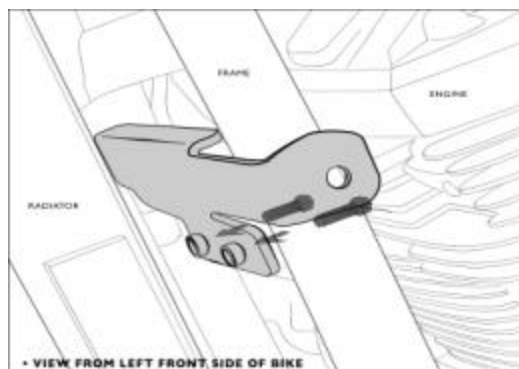

Figure 1
1. Remove the (3) 6mm radiator bolts (1 upper and 2 lower) and set aside. (Do not remove radiator hose).
3. Install the 5/16 x 5/8 Flanged bolts provided through the backside of the frame cross member into the threaded inserts of the mounting bracket (See figure 1). **Do not tighten bolts at this time.**
8. Rotate freeway bar into place with bar mounting tabs outside the upper mounting bracket installed in step 2. Start 3/8 x 7/8 button head allen bolts (2) provided through outside of freeway bar and mounting bracket, place 10mm flat washer and 3/8 Nylock nuts provided onto bolts.
9. Tighten the (2) 5/16 mounting bolts from step 3. then tighten the (2) 10mm right & left freeway bar to floor board bolts from step 4 & 5, and finally the (2) 3/8 bolts with nuts from step 8. Torque all hardware to factory torque specifications.
10. Re-install (3) 6mm bolts through radiator, into frame from step 1.